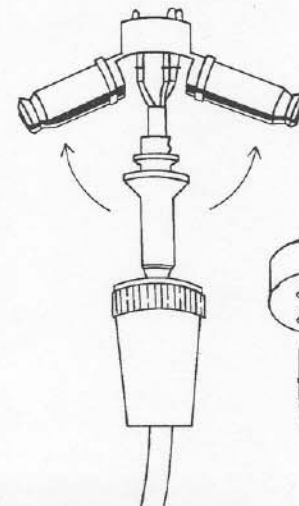

Figure 5
3. Separate molded insert as shown in Figure 5.